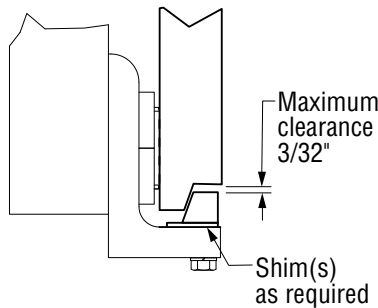

Figure 4-4, Lower Hook Clearance
9. Install the bolt-on lower hooks. Inspect clearance to the carriage on lower hooks. Adjust the lower hooks for a maximum clearance of 3/32" (see Figure 4-4). Tighten the bolts to 40-50 ft-lbs.